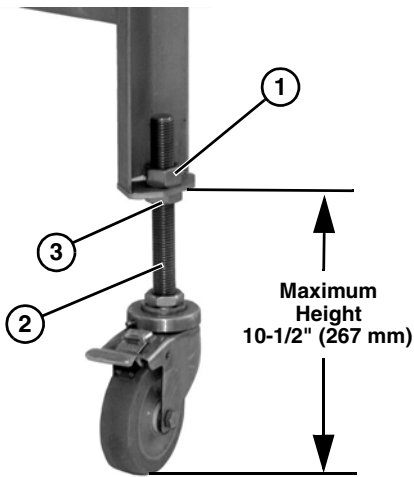

Figure 15
1. Loosen the upper nut (Figure 15, item 1) on the caster stem (Figure 15, item 2).
2. Rotate the lower nut up or down (Figure 15, item 3) to raise or lower the stand to the desired height.
5. Tighten the upper nut (Figure 15, item 1) on the caster stem (Figure 15, item 2) to secure each foot assembly.